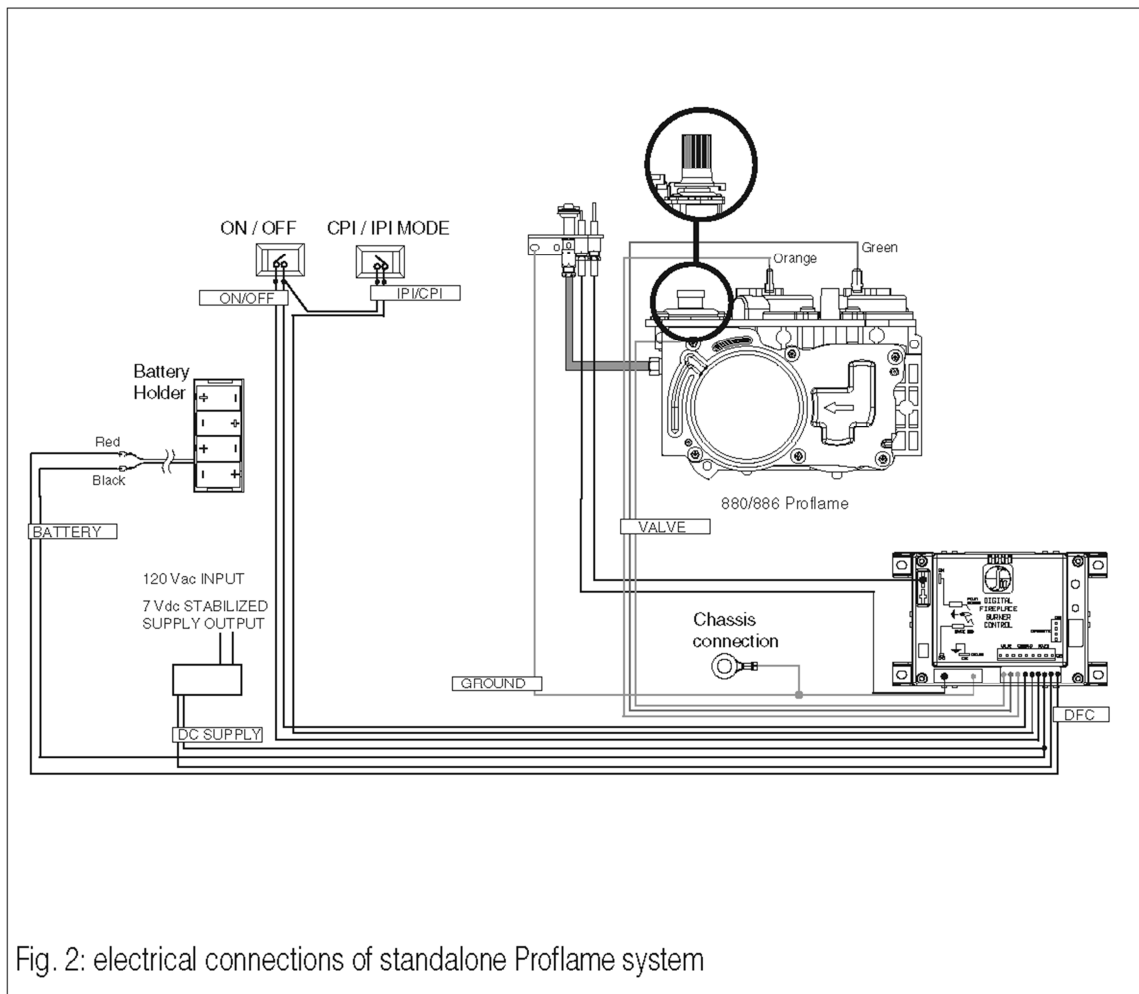

Fig. 2: electrical connections of standalone Proflame system
2. Connect the pilot and control valve as indicated in fig. 2. (Stand Alone System, No Remote)
Before applying any power supply to the DFC board please verify that the electrical connections are in accordance to Fig. 2